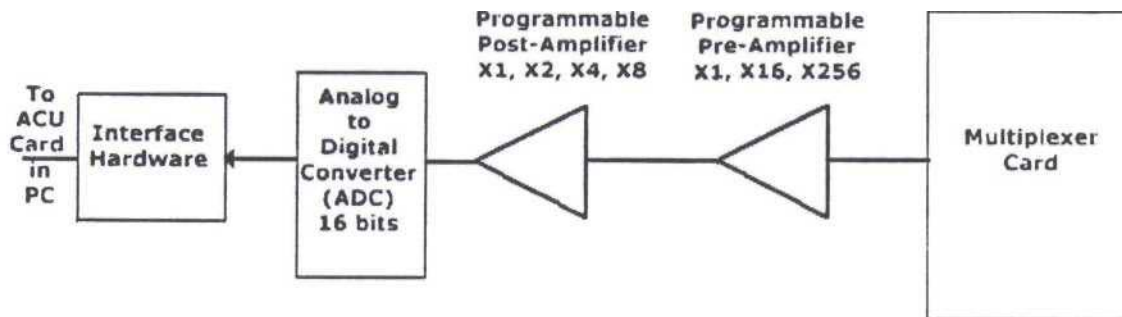

Figure 5 - Analog Input Path
As **Figure 5** illustrates, the combination of a common preamplifier and post-amplifier provides twelve (12) programmable gain ranges between X1 and X2048, allowing each input to accommodate differential signals in the range of $\pm 5\text{mV}$ to ± 10.24 volts full scale.